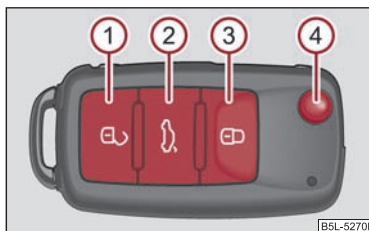

Fig. 30 Remote control key
- Press the button  ⇒ page 44, fig. 30 for about 1 second.